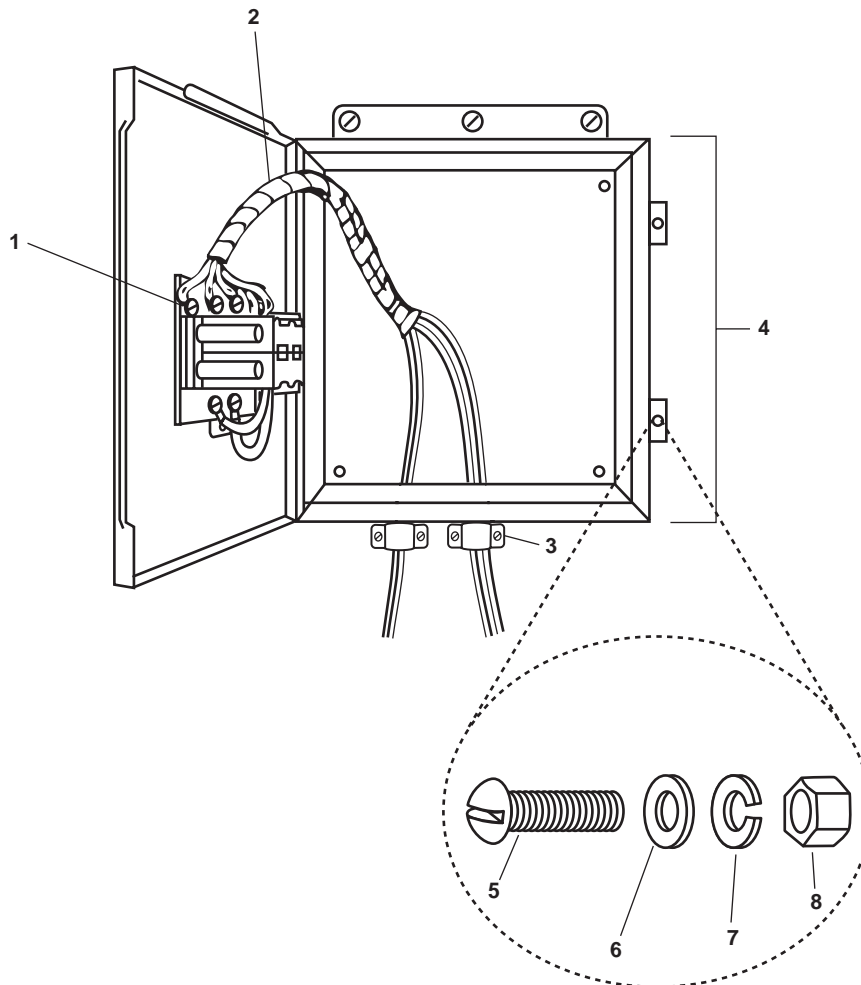

Figure 2. Interior of Motor Controller Type 5
3. Use a multimeter to check for voltage at the motor controller terminals (figure 2, item 1). If voltage is present, ensure that the proper circuit breakers have been secured, locked out, and tagged out (FM 55 502). If no voltage is present, continue with the procedure.
4. Label and remove the wiring (figure 2, item 2) from the terminal screws (figure 2, item 1).
5. Loosen the strain relief clamps (figure 2, item 3) and remove the wiring (figure 2, item 2) from the motor controller (figure 2, item 4).
6. Remove the four bolts (figure 2, item 5), four flat washers (figure 2, item 6), four lockwashers (figure 2, item 7), and four nuts (figure 2, item 8) from the motor controller (figure 2, item 4). Discard the lockwashers.
7. Remove the motor controller (figure 2, item 4) from its foundation.
1. Position the motor controller (figure 2, item 4) on its foundation.
2. Secure the motor controller (figure 2, item 4) with the four bolts (figure 2, item 5), four flat washers (figure 2, item 6), four new lockwashers (figure 2, item 7), and four nuts (figure 2, item 8).
3. Route the wiring (figure 2, item 2) into the motor controller (figure 2, item 4) and secure it in place with the strain relief clamps (figure 2, item 3).
4. Connect the wiring (figure 2, item 2) to the motor controller (figure 2, item 4) using the labels from step 4 of Removal as a guide. Tighten the terminal screws (figure 2, item 1) and remove the labels.